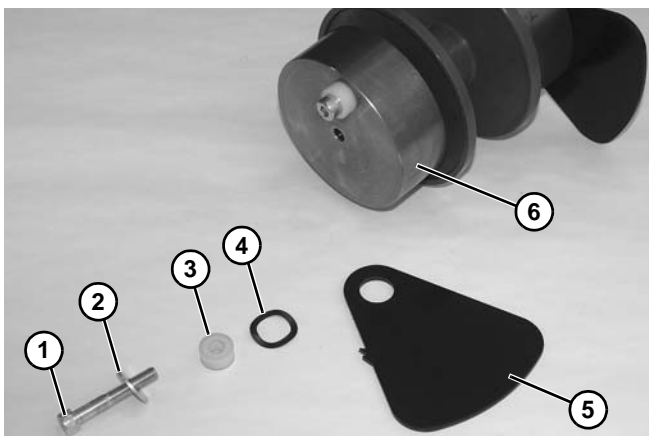

Figure 137
7. Remove bolt (Figure 137, item 1), washer (Figure 137, item 2), spacer (Figure 137, item 3), wave washer (Figure 137, item 4), and plate (Figure 137, item 5) from end of idler assembly (Figure 137, item 6).